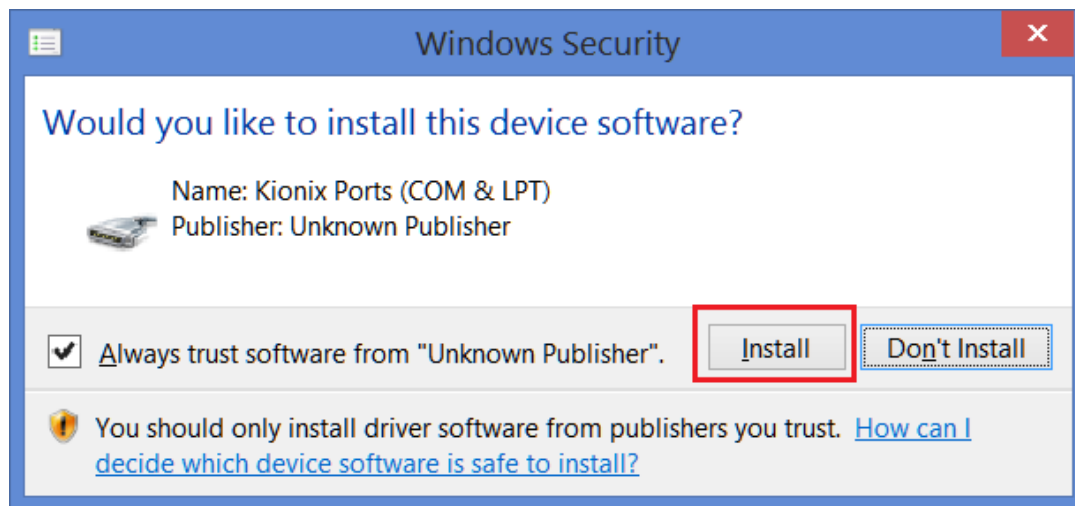

Figure 21. Update Driver Software – 7
9. Windows will prompt you to install the driver, please select "Install" (Figure 21).